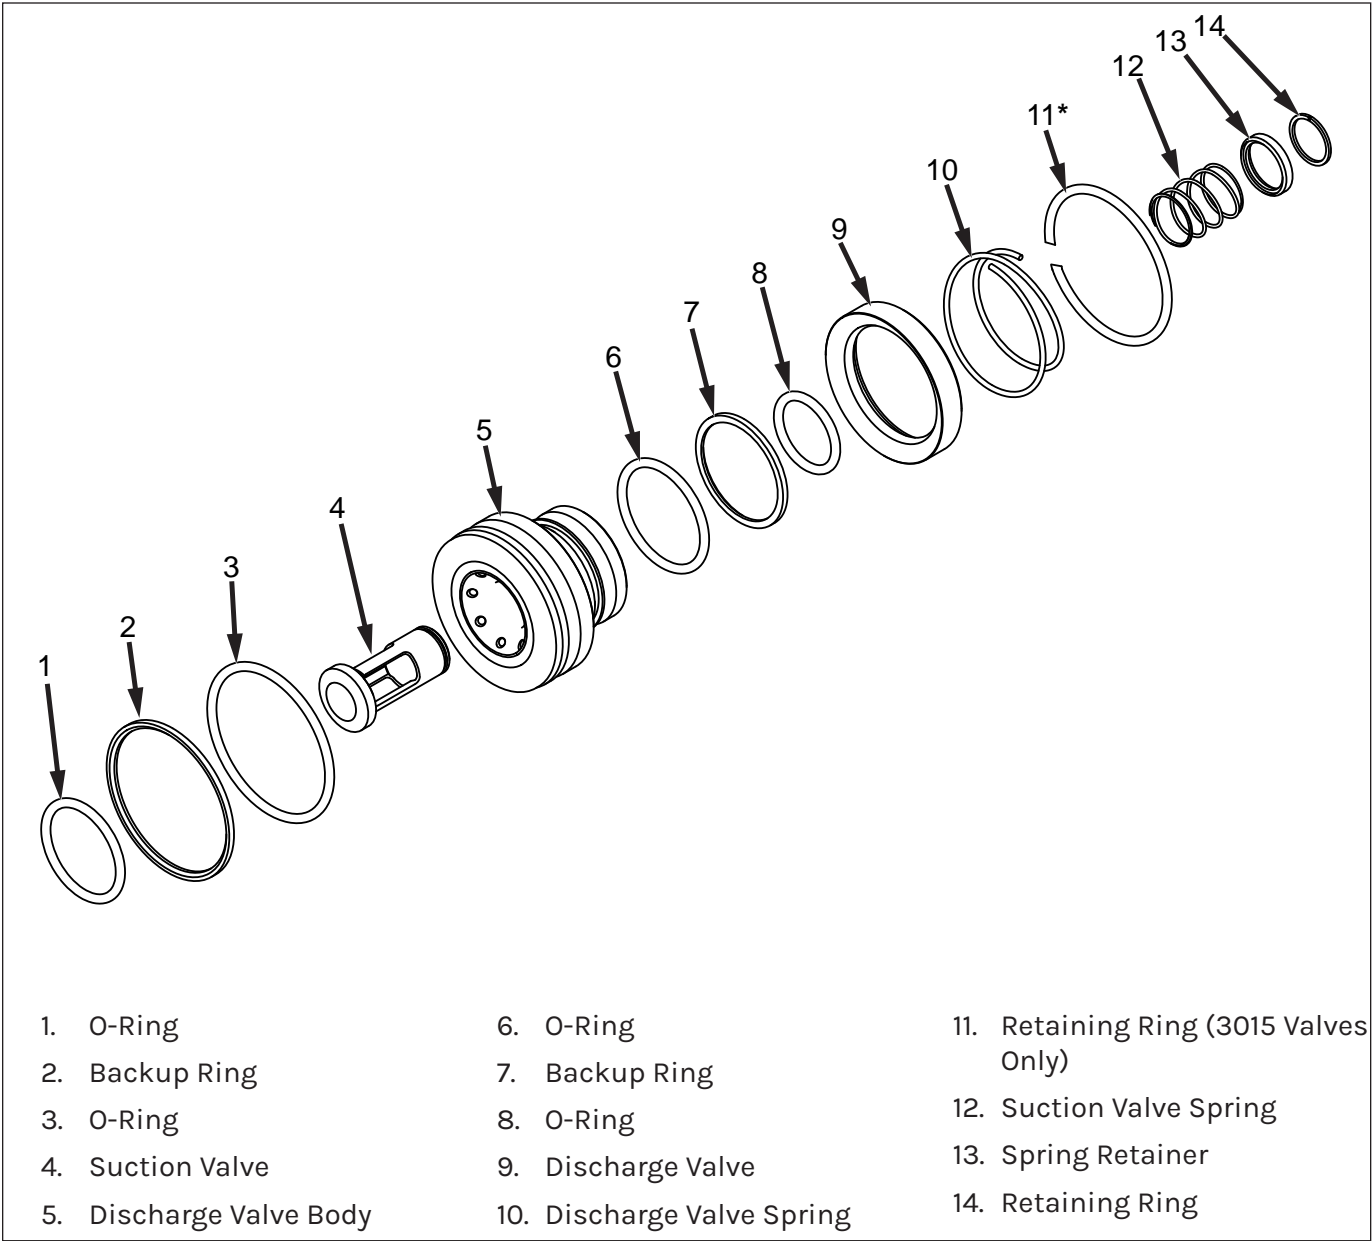

Figure 114: 15/20K Uni-Valve Exploded View.
**Note:** 3015 valves are equipped with a retaining ring to secure the discharge spring (Figure 114).